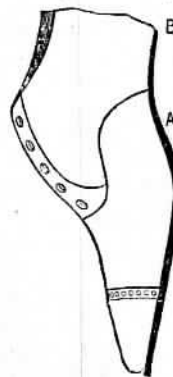
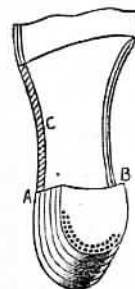
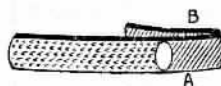

Fig. 137.—Paring Waist and Buffing Edge.
Fig. 138.—Peening Waist and Breaking Heel Corners.
Fig. 140.
up, as Fig. 137, the edge of the sole is now knifed-up with the knife in the right hand, the point only between the thumb and finger, as shown by B (Fig. 95, page 90), commencing at A (Fig. 137), and going round to the joint on the other side. Only little shavings are taken off, for the sole has been already shaped; all that now remains is to make the edge quite square.
To prepare for knifing-up the waist, the corners A and B (Fig. 138) must be well knocked down by means of a corner-beater or welt-beater, which is made by heating an old file, turning it back for about a third of the way, and while hot beating it up square, at A and B
(Fig. 139), on the lap-iron, with a hammer. Another form for a corner-beater is shown at Fig. 140. When it is the shape required, heat it again, and put it into cold water, and when dry, brighten it a little with emery cloth and temper it by reheating till the brightened part turns blue.
The corners are knocked down by putting a corner-beater (Fig. 140), right into the corner of the heel and waist, at A or B, and hammering it well down until a decided corner is made to the heel. While this is being done, the boot is held in the position shown by Fig. 138, by the stirrup, firm upon the knees. Then hammer each side of the waist with the peen end of the waist or cramp hammer; this will knock the edge of the waist over, to cover the stitch, and also make it lie closer to the upper. This process will leave marks at C; but a second row of taps, made with the peen of the hammer held so that these lines shall cross the others, will make the edge more even, and also very firm at the side of the stitches. The waist can now be hammered along each
The top of the top piece of the heel can be well filed with the file side of the rasp. The boot is held between the knees, in the position of Fig. 138, or reversed with the toe towards you ; it must be held very firmly, with the
Sand-papery is the next process, and a troublesome one it may prove if the sand-paper is not soft, even, and used in the proper place. To do the sand-papery of the sole, the boot can be held in the position of Fig. 137 for the last half, and in the reverse direction for the first half. A sheet of sand-paper costs a halfpenny, and folded uniformly it will make sixteen handy pieces. Double one of these rough side out, and hold it between the thumb and finger, as the buffing-knife in Fig. 145, except that the three fingers and the forefinger are closed in the palm of the hand, holding the paper between the thumb and the knuckle of the forefinger, and so far from the edge as to leave the paper under the thumb only. Supposing *D* to be the sand-paper, the folded edge should be at *B*, and being used upon the forepart, this edge must be nearest to the upper; but it must not touch it, nor must the hollowness in the edge be in the least interfered with.
When the edge of the waist was peened as at c (Fig. 138), the process ought to have knocked the welt very close to the upper. With the boot in the position shown in Fig. 137, hold the knife upright, and, commencing at the heel, and coming down to where the sole begins to get thick (A), cut away the edge of this welt in the waist. It will be only a very narrow strip, and as it was skived very thin, it will not be hard to cut. You must not cut very near the stitches, and take care not to slit the upper. With the boot in the reverse position, the same process is done on the other side in the same way,
only this is done so that the sole c (Fig. 138) shall itself form the edge of the waist, which will then be solid.